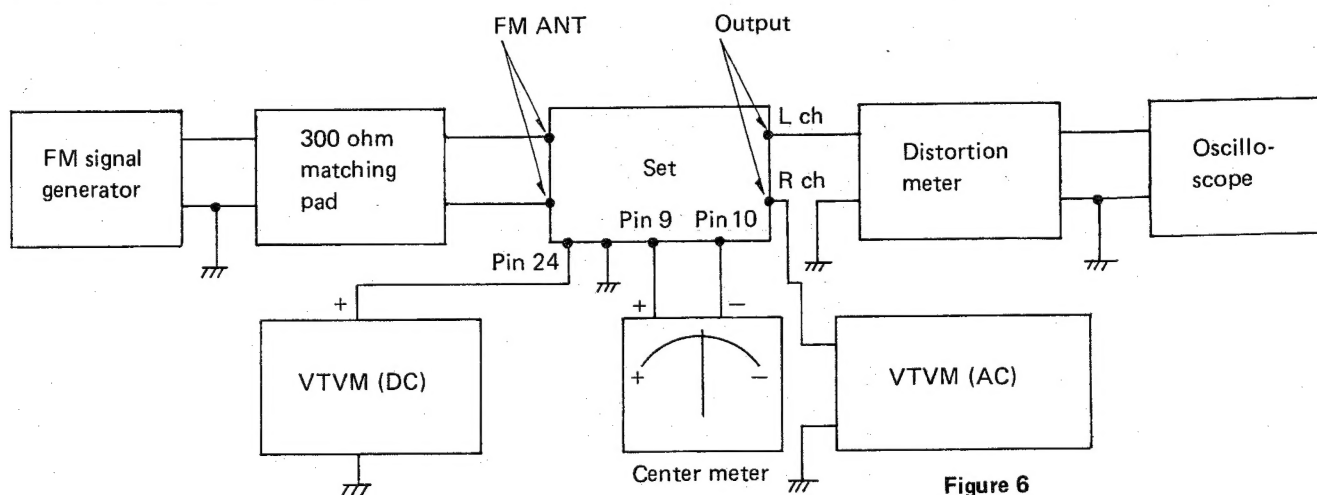

Figure 6
- (1) Connect test equipments as shown in Figure 6.
- (2) Push the FM button.
- (3) Set the MUTING switch to OFF ( ).
- (4) Generator modulation .. 1 kHz (75 kHz dev.)
- (5) Proceed as outlined in the TABLE 3. FM ALIGNMENT CHART.